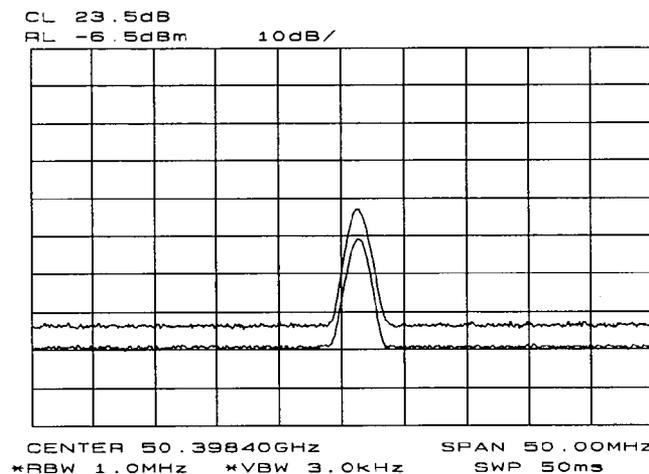

**Figure 3-33. Signal Responses Produced by a 50 GHz Signal in U Band**
- The IF output of a harmonic mixer contains many mixer products (frequencies of  $LO \pm \text{source}$ ,  $2LO \pm \text{source}$ ,  $3LO \pm \text{source}$  ...  $nLO \pm \text{source}$ ). As a result, within a single harmonic band, a single input signal can produce many responses, only one of which is valid. These responses come in pairs, where the members of the valid pair are spaced 621.4 MHz apart (see Figure 3-33) and the right-most member for the pair is the correct response (for this analyzer, the left member of a pair is not valid).